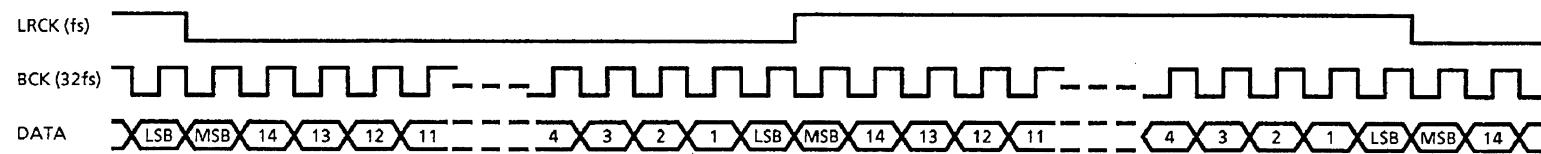

Figure 3 Serial data input timing (16 bit)
- Refer to Figures 3 and 4 (a) when the input data is 16 bit/ch.